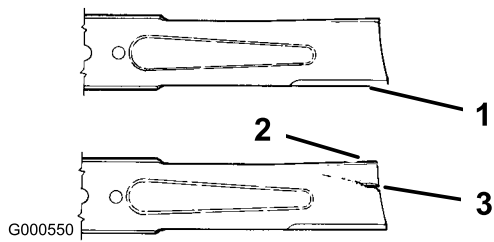

Figure 33
1. Inspect the cutting edges (Figure 33). If the edges are not sharp or have nicks, remove and sharpen the blades; refer to Sharpening the Blades.
2. Inspect the blades, especially the curved area (Figure 33). If you notice any damage, wear, or a slot forming in this area (item 3 in Figure 33), immediately install a new blade.